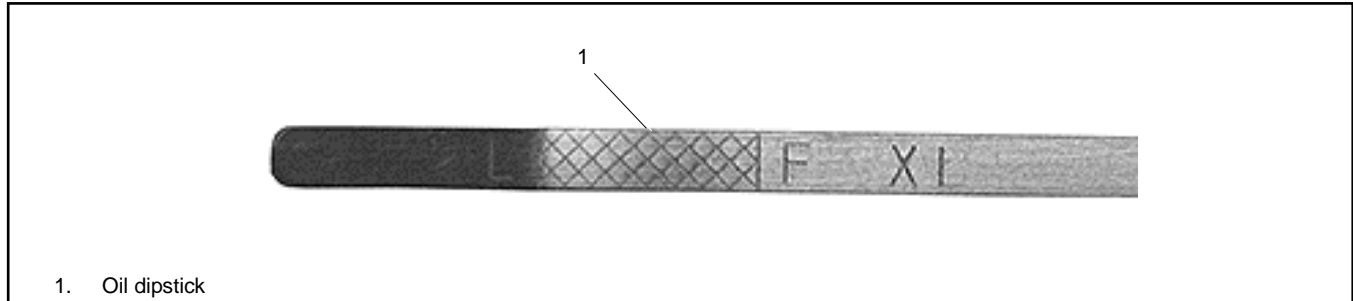

Figure 23 Oil Dipstick
10. Check engine oil level, making sure that the level lies between the L and F marks on the dipstick. See Figure 23.